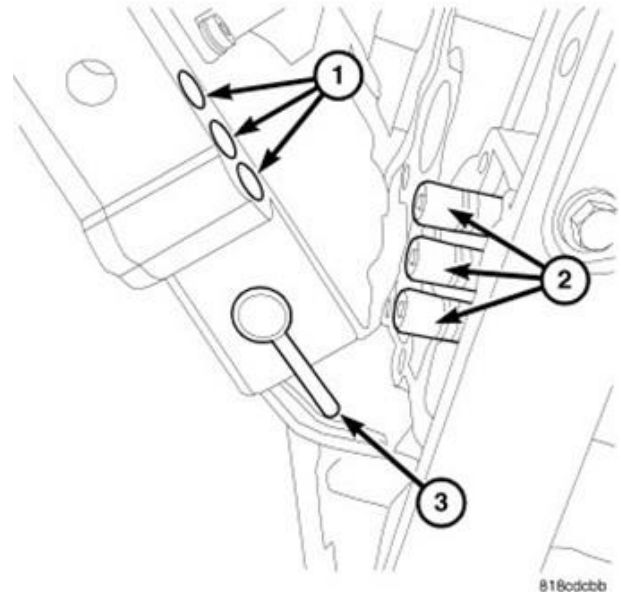

Figure 15 – Valve Body
**NOTE:** It may be necessary to use needle nose pliers or similar tool to push the oil transfer tubes (2) toward the transmission releasing them from the valve body (1) during valve body removal (Figure 15).
**NOTE:** For reassembly, pay attention to alignment of manual valve pin (3) in the range selector rooster comb (Figure 15).
25. Carefully remove the valve body (1) being careful to not damage the valve body gasket on the back side of the valve body (Figure 15).